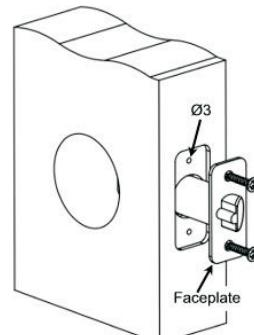

fig. 4
3.2 Use faceplate as a pattern for mortise and pilot hole. The faceplate should fit flush (see fig. 4).
1.4 Insert Mounting Screws to mounting hole on the inside chassis (see fig. 4). Screws should slide smoothly through the hole on door. Use the Philip Screwdriver to drive two screws into the mounting hole on mounting poles.